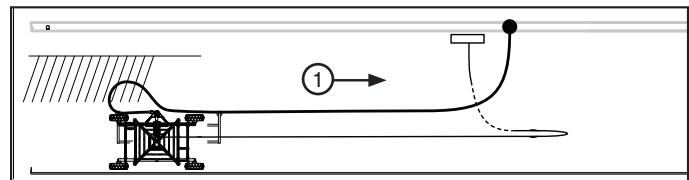

Figure 53-4 1. Direction of Travel
- (c) After the side inlet has pivoted completely the hose is being pulled by the side inlet and guided by either the side walls of the cart tires. See figure 53-4.